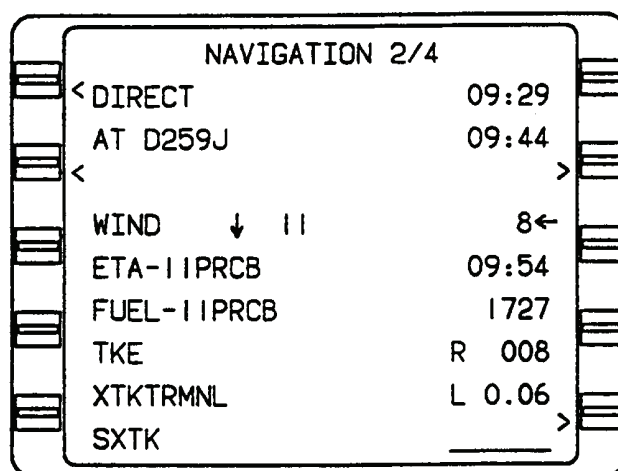

Figure 3A-27. FMS Navigation 2/4 Page
(3) *Navigation 2/4 Page*. Refer to Figure 3A-27.